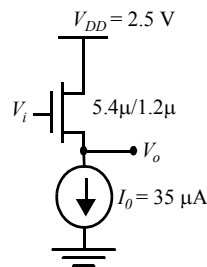

Figure 0.6 Source-follower level converter.
- [M, None, 3.3.2] The circuit of Figure 0.6 is known as a *source-follower* configuration. It achieves a DC level shift between the input and output. The value of this shift is determined by the current I_0 . Assume $\gamma = 0.4$, $2|\phi_f| = 0.6$ V, $V_{T0} = 0.43$ V, $k' = 115 \mu\text{A}/\text{V}^2$, and $\lambda = 0$. The NMOS device has $W/L = 5.4\mu/1.2\mu$ such that the short channel effects are not observed.